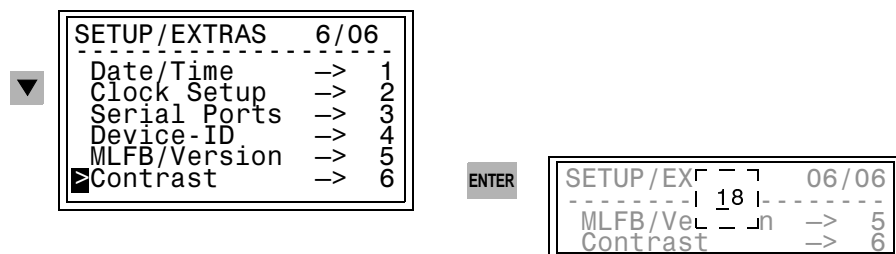

Figure 3-3 Operating Sub-menu for Adjusting the Display Contrast
- Using the **▼** key, select the menu item **Setup/Extras** and switch to the selection **SETUP/EXTRAS** using the **►** key. See Figure 3-3.